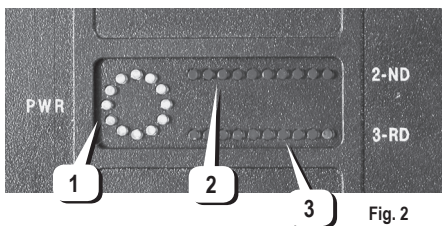

Fig. 2
4.1. The transceiver antenna unit with built-in LED indicators (shown in Fig. 2) is used for:
- Indication of the probing signal levels (1) as well as of the 2nd (2) and 3rd (3) harmonics levels (Fig. 2).